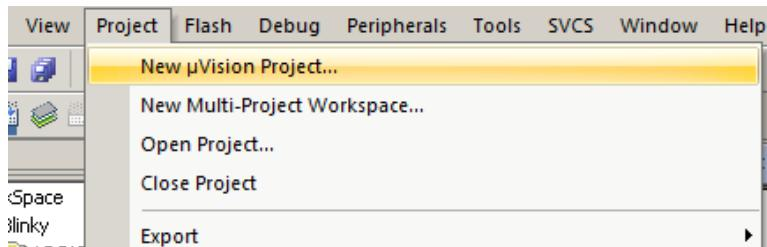

Figure 8.1: Keil IDE: Create a New Project
- Click Project → New uVision Project (See Figure 8.1).